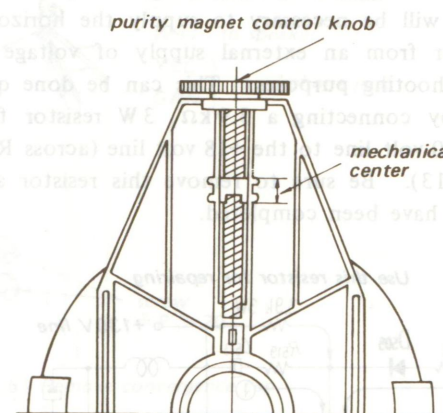

Fig. 4-1.
3. Set the purity magnet control to the mechanical center to obtain minimum magnetic field as shown in Fig. 4-1.